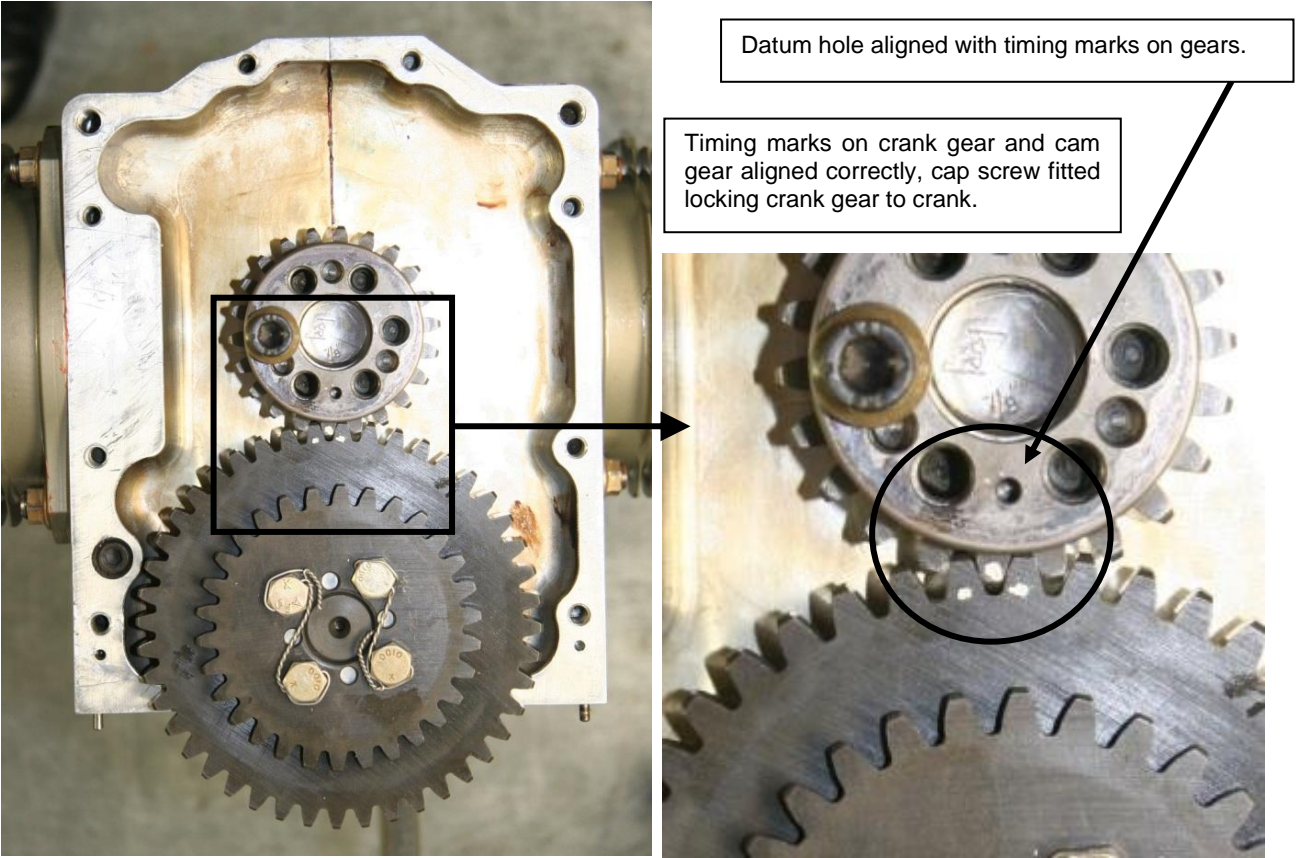

Figure 170 – Setting Cam Timing
- Ensure the bead is continuous and un-brokenThe bead should be applied **22mm** down from the flywheel attachment face (see Figure 170).
- The camshaft drive gear can now be fitted to the end of the crank as shown in Figure 170 – so that the tooth on the crankshaft gear with the timing mark is between the two teeth of the cam gear with timing marks.
- Start with the engine positioned at TDC (i.e. piston #1 is fully extended out and the timing marks on the crank gear and camshaft timing gear are meshed as shown in Figure 170)